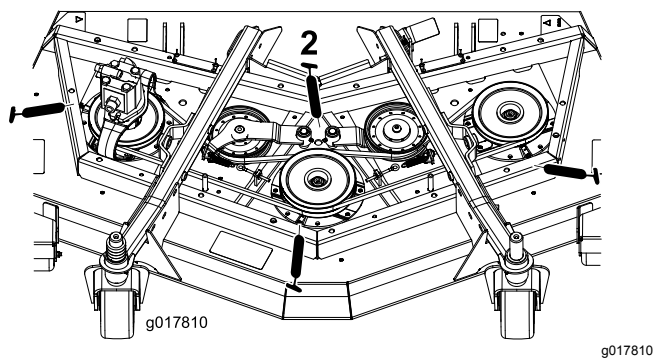

Figure 44
- 3 spindle-shaft bearings—located under the pulley (Figure 44)
- 2 idler-arm-pivot bushings (Figure 44)